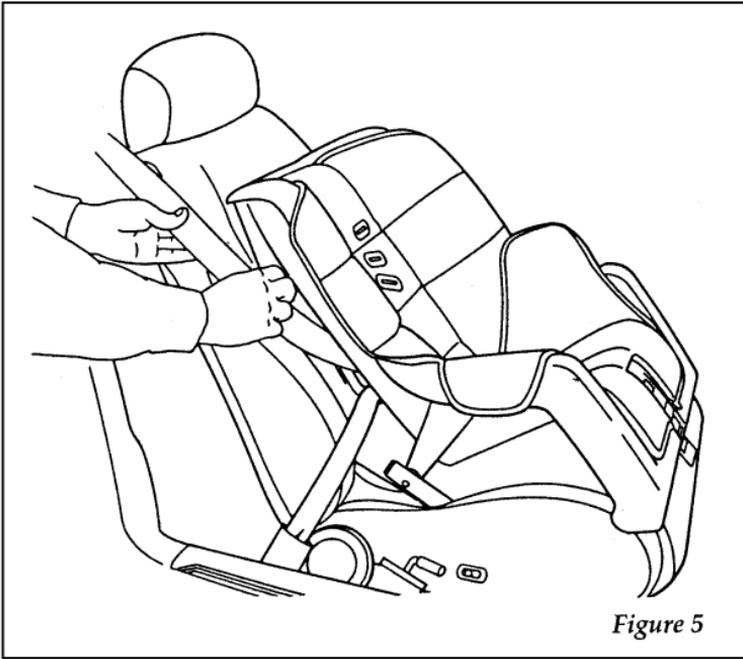

Figure 5
6. Allow the belt to retract. Pull up on the shoulder webbing. A clicking sound will be heard as the belt retracts. This indicates the retractor is in the automatic locking mode. Push down on the child seat while you pull up on the belt to remove any slack in the belt. Figures 5 and 6.
7. Grasp belt close to child seat and pull on the shoulder belt portion of the combination lap/shoulder belt, then allow the belt to retract and remove all slack to securely tighten the child safety seat in the vehicle. See Figure 5.